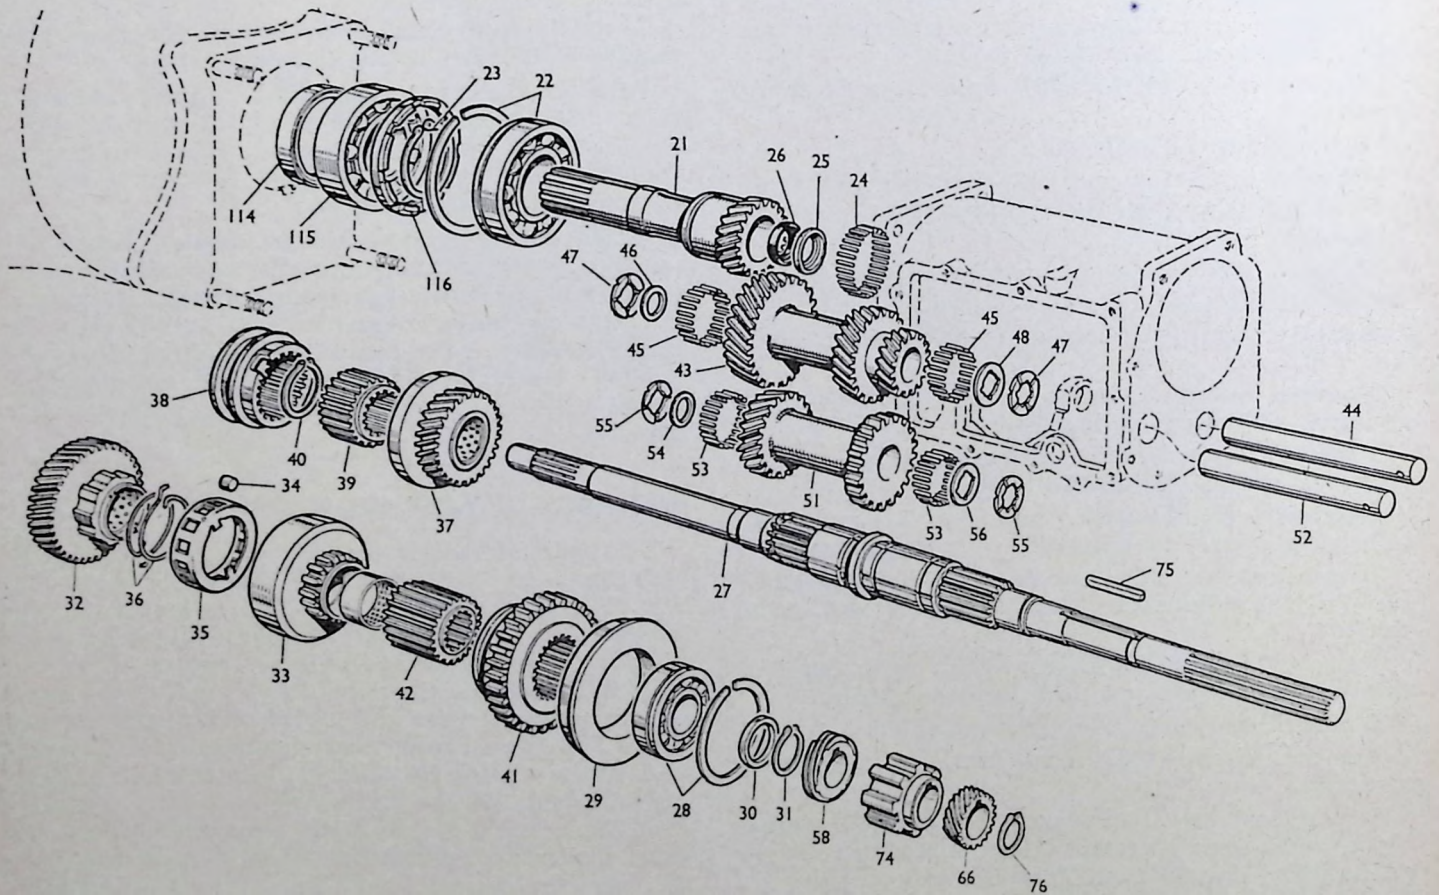
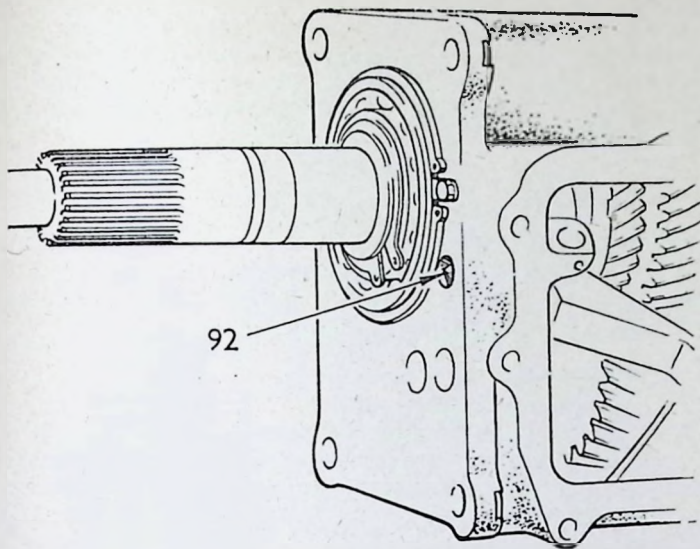

FIG. 40.—Exploded view of gearbox (gears, etc.).
FIG. 52.—Location of gearshift spring, shims and plug.
INTERMEDIATE GEAR AND BAULK RING ASSEMBLY (37, Fig. 40).
Press on the rear ball bearing (28), complete with housing (29) and circlip (Fig. 40).
Select a spacer (30) to give less than .002" clearance between bearing (28) and spacer (30) when circlip (31) is fitted; fit spacer (30) and circlip (31, Fig. 40).
Fit key (75) in keyway being careful to support mainshaft directly opposite keyway to avoid distortion of shaft (Fig. 40).
Fit wavy circlip (76, Fig. 40).
Fit circlip (40) and check that intermediate gear (37) is quite free to rotate (Fig. 40) and that its end float is .004-.006".
Remove circlip (40), sliding dog (38), hub (39) and intermediate gear (37) to facilitate fitting the mainshaft into the gearbox (Fig. 40).
Press bearing (22) on to stemwheel (21) and fit circlip (23, Fig. 40).
Turn stemwheel bearing circlip and fit stemwheel retaining screw and special washer (Fig. 52).
NOTE: When re-installing the gearbox, ensure that plug (92, Fig. 52) and spacer (116, Fig. 40) are still in position.